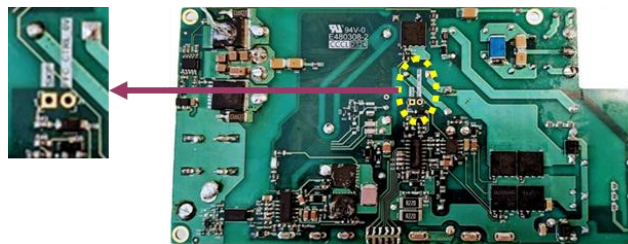

Figure 6 – Pins to be shorted to activate PFC Skip mode to obtain lowest no-load power
3. For both the no-load power and light-load power tests the TPPFC “Skip mode” operation on the TPPFC controller NCP1680 was externally activated. In this reference design version, the LLC stage is not able to activate automatically the PFC “Skip mode” operation. Figure 6 shows the two pins above can be shorted to activate NCP1680 Skip mode. Warning: These pins must not be shorted for normal operation